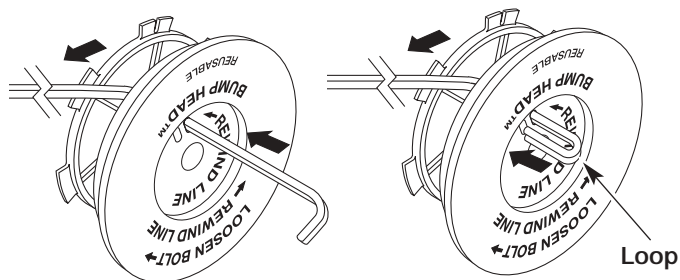

Figure 37
- Take approximately 20 feet (6.1 m) of new trimming line. Insert one end of the line through one of the two holes in the inner reel. See Figure 37. Pull the line through the inner reel until only about 4 inches is left out.
- Insert the end of the line into the open hole in the inner reel and pull the line tight to make the loop as small as possible. See Figure 37.